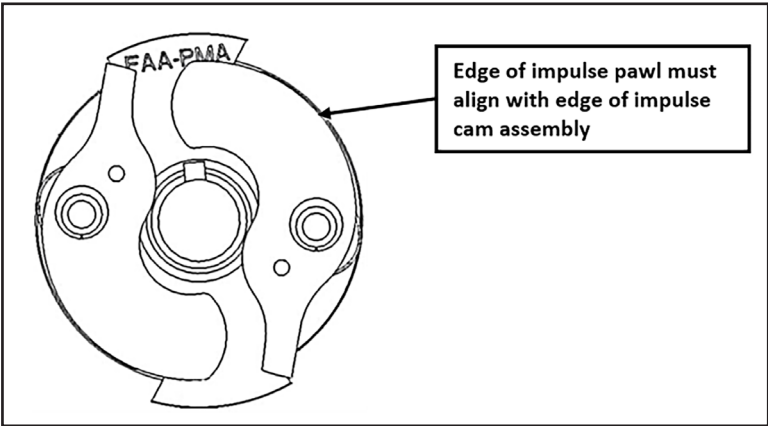

Figure 4.4 – Pawl Clearance
- 1) Align the outer edge radius of the impulse pawl to align with the outer edge radius of the impulse assembly. Reference Figure 4.4.